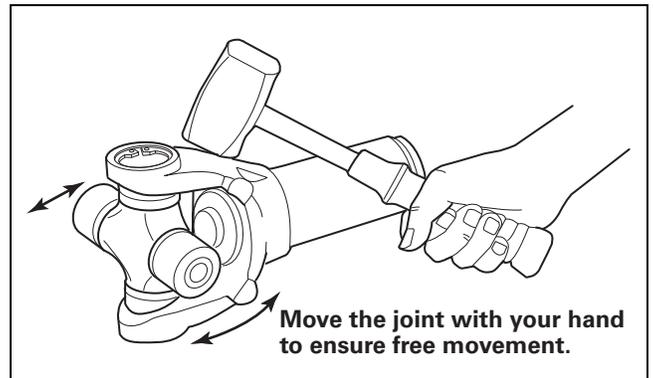

Figure 8.29
8. Strike the yoke ear with a brass or copper hammer to ensure that the universal joint moves freely. Figure 8.29.